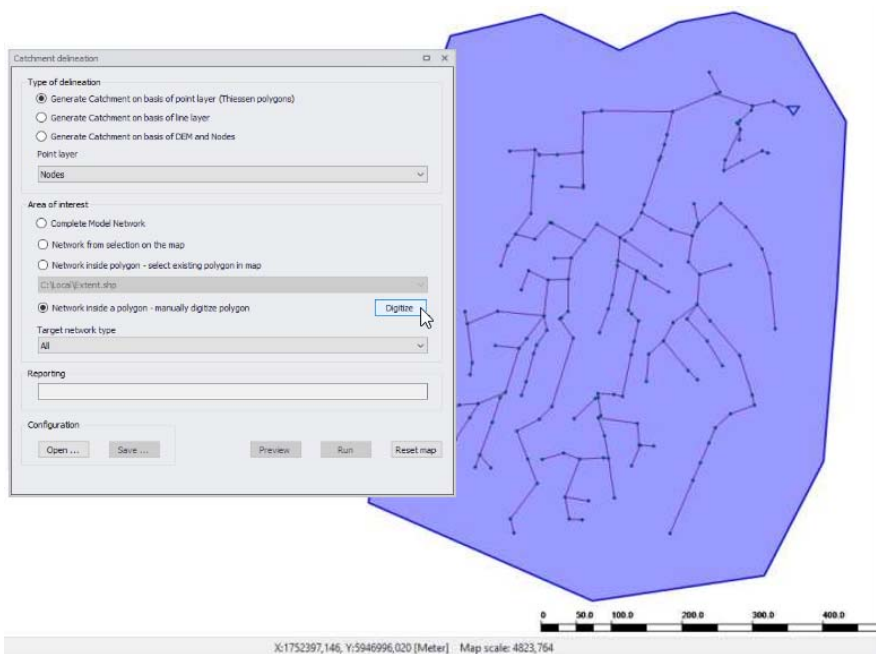

Figure 11.22 Digitizing the boundary on the map via the 'Digitize' button
- **Network inside polygon - manually digitize polygon.** Manually digitize the polygon on the map. If this method is selected, use the 'Digitize' button to draw the boundary directly on the map, ending the digitization with a double-click. See Figure 11.22. A catchment will be delineated around each network element within this polygon.